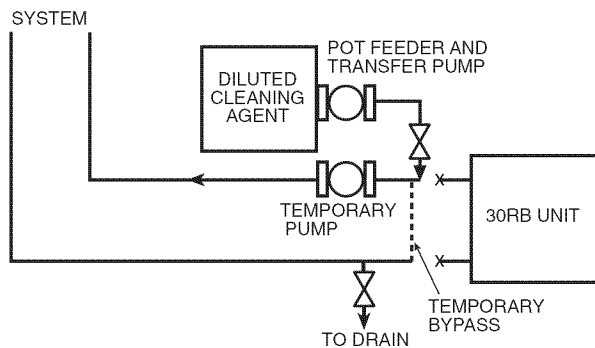

Fig. 37 — Typical Set Up for Cleaning Process
1. Install a temporary bypass around the chiller to avoid circulating dirty water and particulates into the pump package and chiller during the flush. Use a temporary circulating pump during the cleaning process. Also, be sure that there is capability to fully drain the system after cleaning. See Fig. 37.